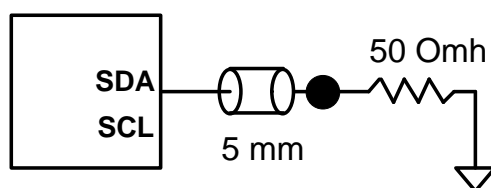
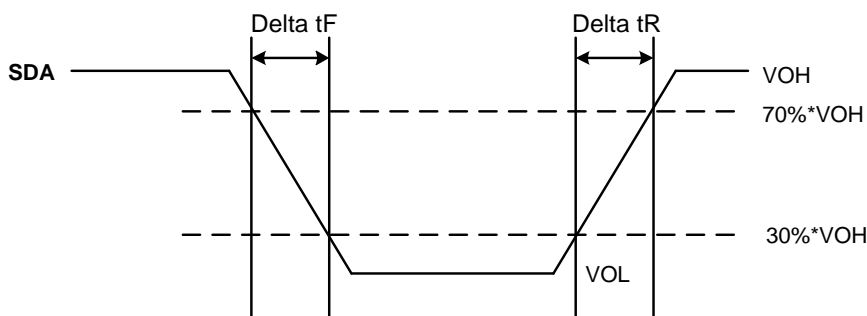

Figure 5 Output Slew Rate and Output Timing Reference Load
Figure 6 Output Slew Rate Measurement Points
- 2 Output slew rate is guaranteed by design and / or characterization. The output slew rate reference load is shown in Figure 5 and Figure 6 shows the timing measurement points. For slew rate measurements, the  $V_{OH}$  level shown in Figure 6 is a function of  $R_{on}$  value;  $V_{OH} = \{1.0 / (R_{on} + 50)\} * 50$ .
8. for output timing parameter definition. See Figure 5 for output timing parameter measurement reference load.
9. The GD30TS139 device must be configured in I3C Basic mode to guarantee  $t_{DOFFT}$  value. See Figure 11. See Figure 5 for output timing parameter measurement reference load. Also refer to MIPI Alliance Specification for *I3C Basic Version 1.0-19 July 2018, section 5.1.2.3.2, Transition from Address ACK to Mandatory Byte during IBI*.
10. The GD30TS139 device must be configured in I3C Basic mode. The Host guarantees  $t_{DOFFC}$  value. See Figure 12. See Figure 5 for output timing parameter measurement reference load.